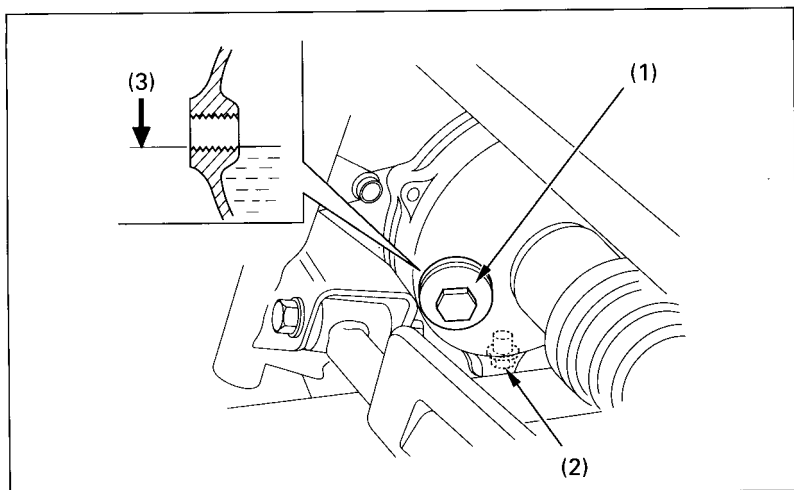

Fig. 4-15 (1) Oil filler cap (3) Lower edge of inspection hole
1. To drain the oil, first place an oil drain pan under the oil drain plug (Fig. 4-15).
2. Remove the oil filler cap (1) and the drain plug (2).